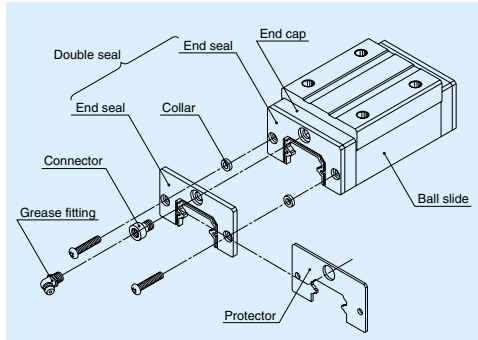

Fig. II-5-4
(1) Double seal
- Double-seal set: Can be installed to a completed standard item later on request. It comprises two end seals, a collar, and a small screw for installation (Fig. II-5-4).